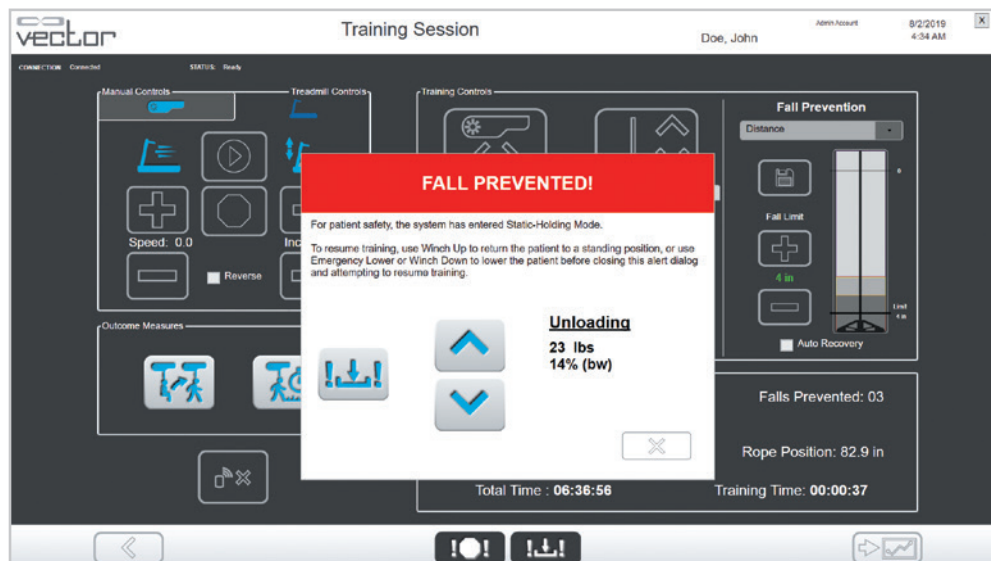

Figure 5-18: Fall Prevented Window
1. When the Vector Elite system software detects a fall, the Fall Prevented window will appear. See Figure 5-18.